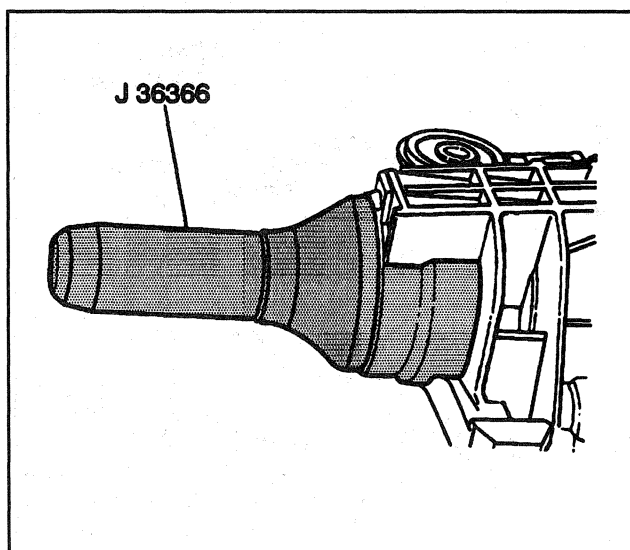

Figure 31—Installing the Pinion Seal
5. Seal into the case using J 36366 (Figure 31).